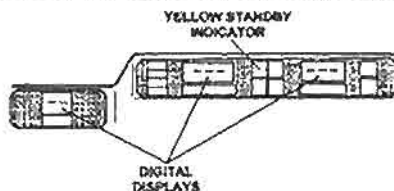

Figure 3-14. Standby mode.
- d. Continue to observe the control panel. The following control panel actions will automatically occur (fig 3-14).